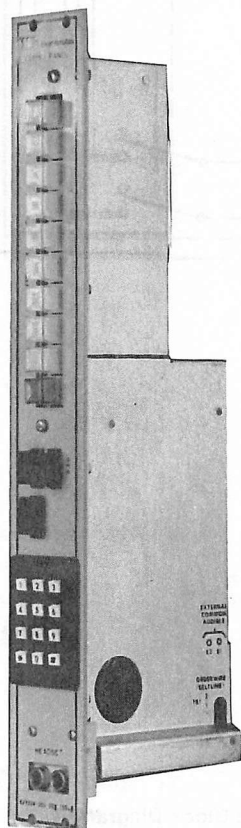

Fig. 1—Communications Panel, 623324, Pushbutton Dial
- 1.01 This Section provides a general description of the communications panel, 623323 and 623324 (Fig. 1), to the functional block diagram level.